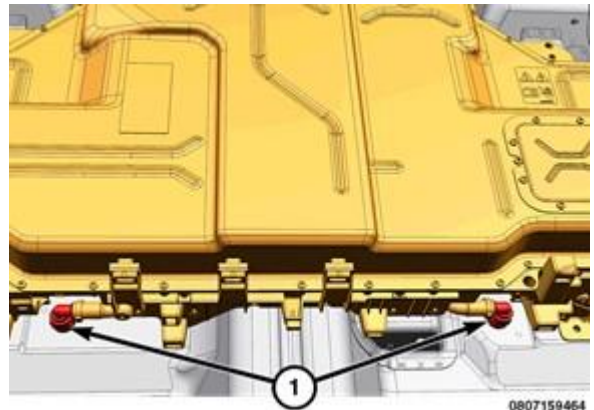

Figure 31 – HV Battery Coolant Connectors
55. Disconnect and plug the HV battery coolant line connectors (1) (Figure 31).
67. Connect the HV battery coolant line connectors (1) (Figure 31).